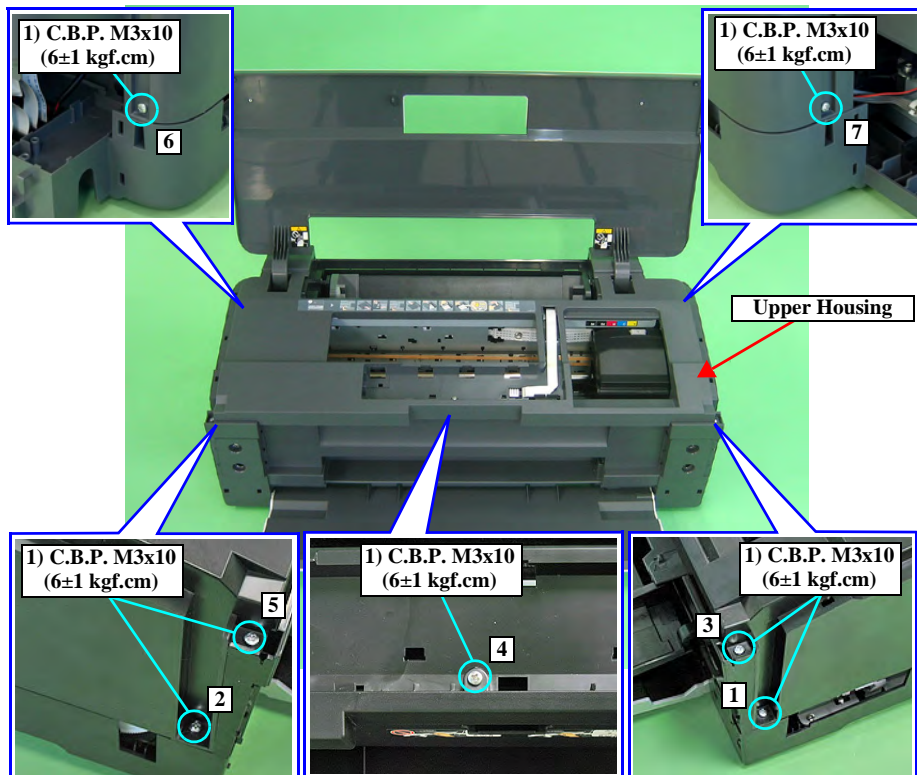

Figure 4-15. Remove the Upper Housing
- Tighten the screws in the order shown in Figure 4-15.